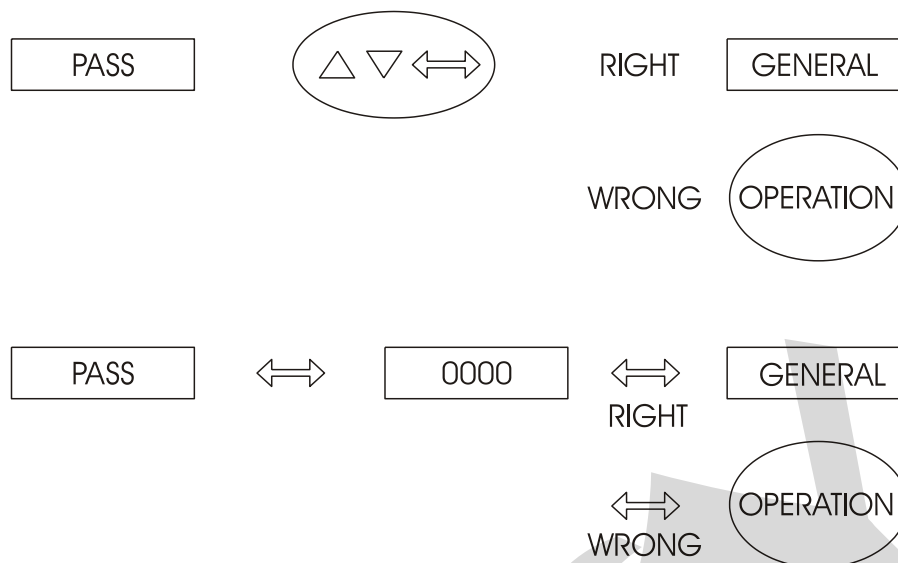

Fig. 8 - Password System by Key and by Value
- The display shows the password mnemonic, indicating that the instrument is provided with a password system which can be either by key or by value, as illustrated on figure 8.
In case of password by value the user should press the ENTER key a second time to obtain the display of number 0000 with the last digit flashing on the right. The flashing digit indicates the position where the digit of a 4-digit number will be entered by the user. In order to move to the other digits to the left of the number one should press the ENTER key. After entering all digits, press once more the ENTER key to switch to level 1 in case the password is correct; otherwise, the system reverts to normal operation mode (see figure 8).